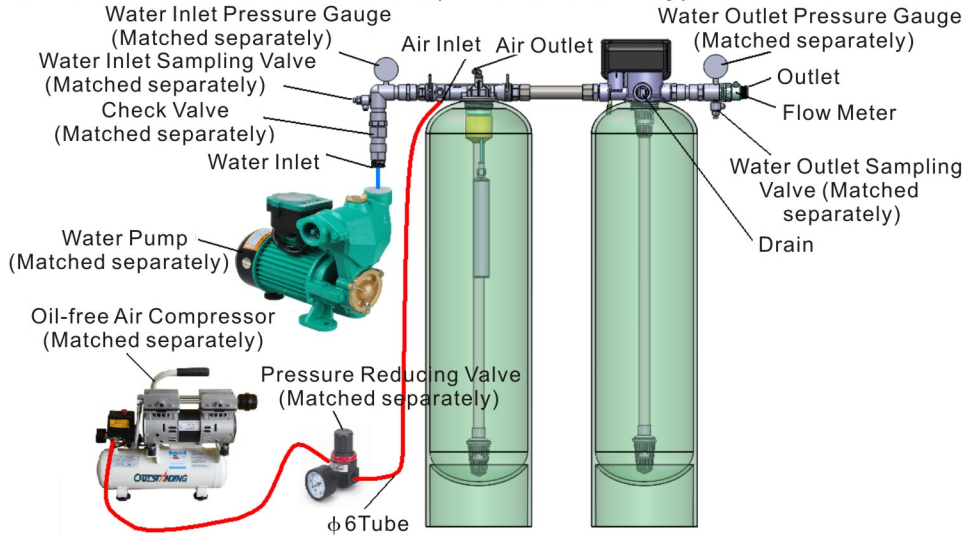

Figure 1
As figure 1 shows(Equipment back view) connect aeration tank and filter tank as well as other accessories(For reference only):
B.Adjust the compressed air pressure reducing valve, let inlet air pressure (See pressure gauge on Figure 1) lager than inlet water pressure(See water pressure gauge on Figure 1) 0.05MPa is best.